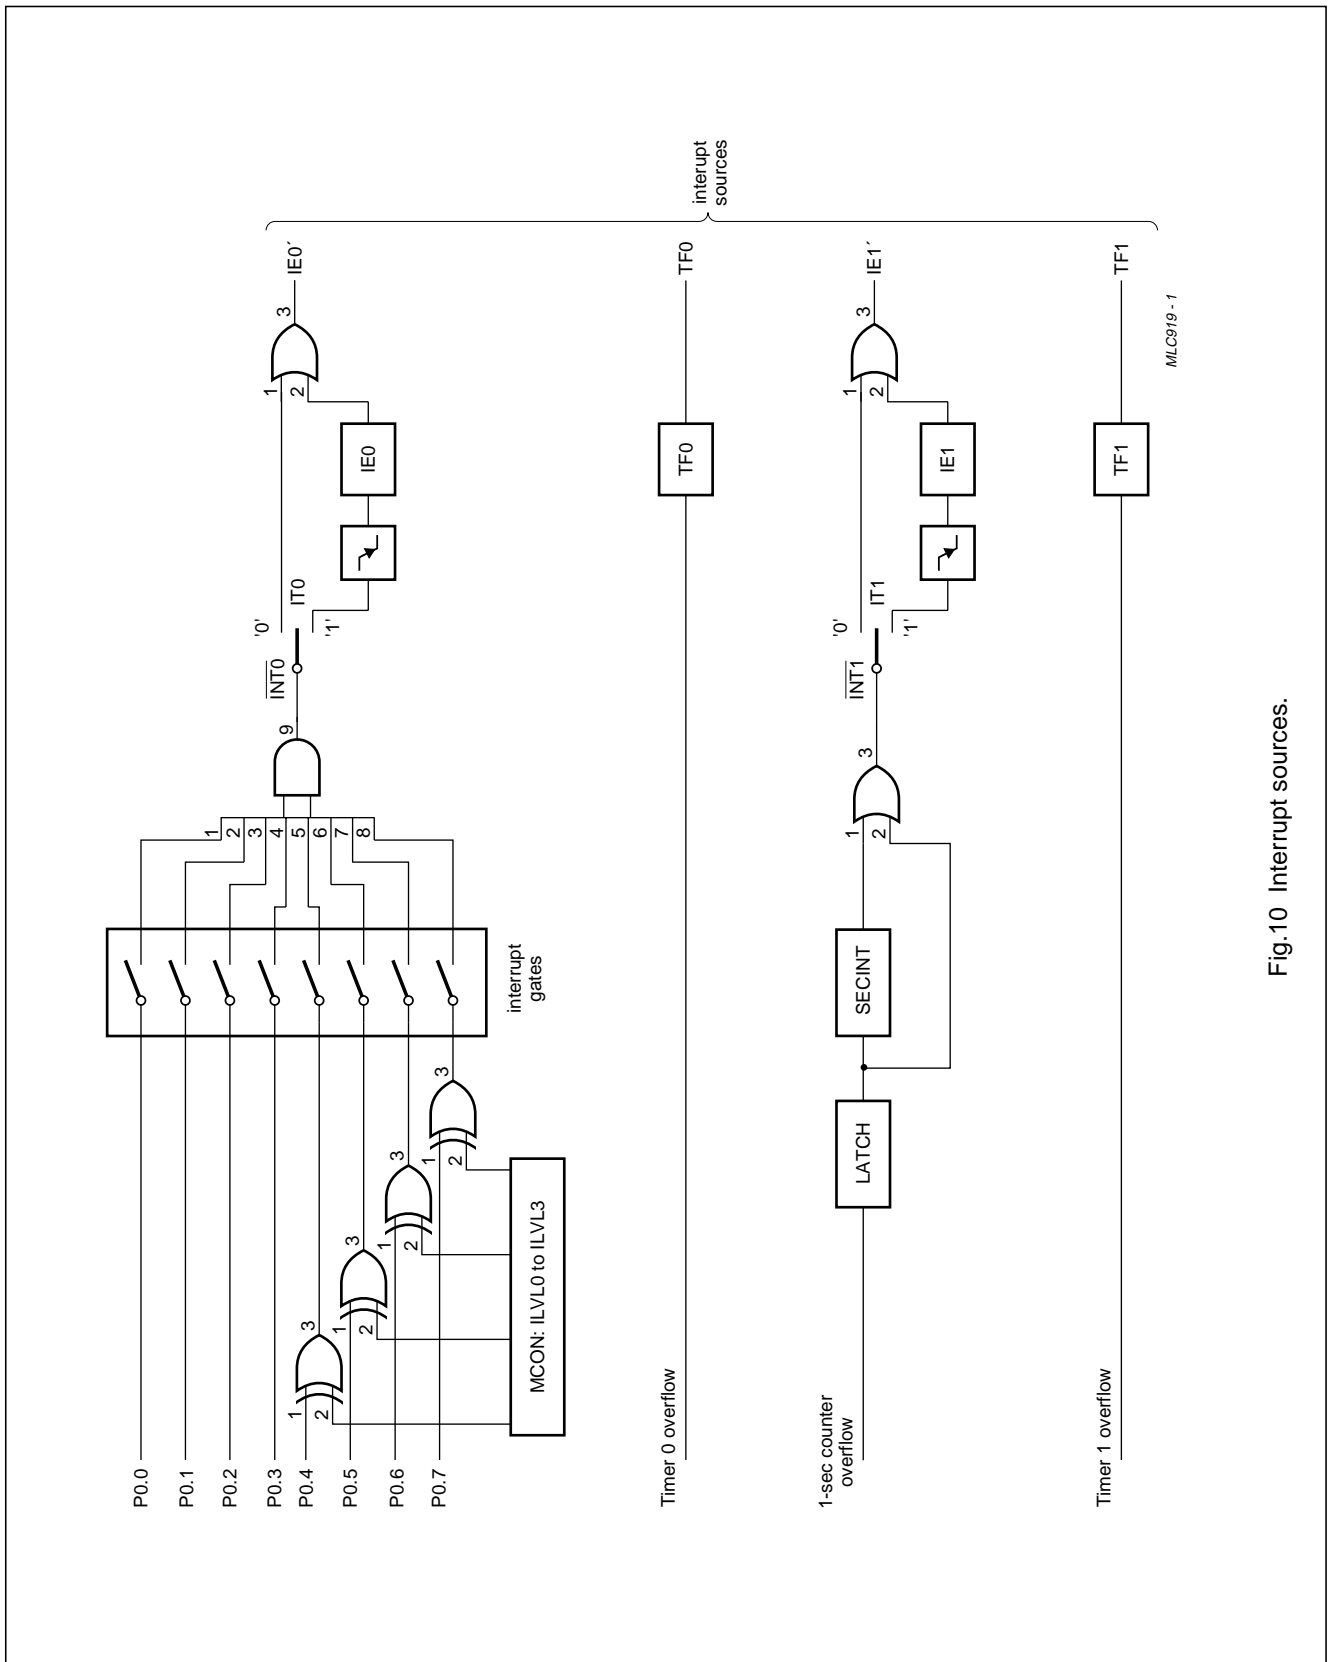

Fig.10 Interrupt sources.
Port configuration: Quasi-bidirectional (push-pull in emulation mode). For the Interrupt generation see Fig.10. If one of the port lines P0.0 to P0.3 is a logic 0 or one of the port lines P0.4 to P0.7 is equal to the corresponding bit in the Miscellaneous Control Register (MCON) and the corresponding bit in the Interrupt Gate Register (IG) is a logic 1, then an INT0 interrupt is generated.
The P83C434 and P83C834 have 4 interrupt sources; these are shown Fig.10.